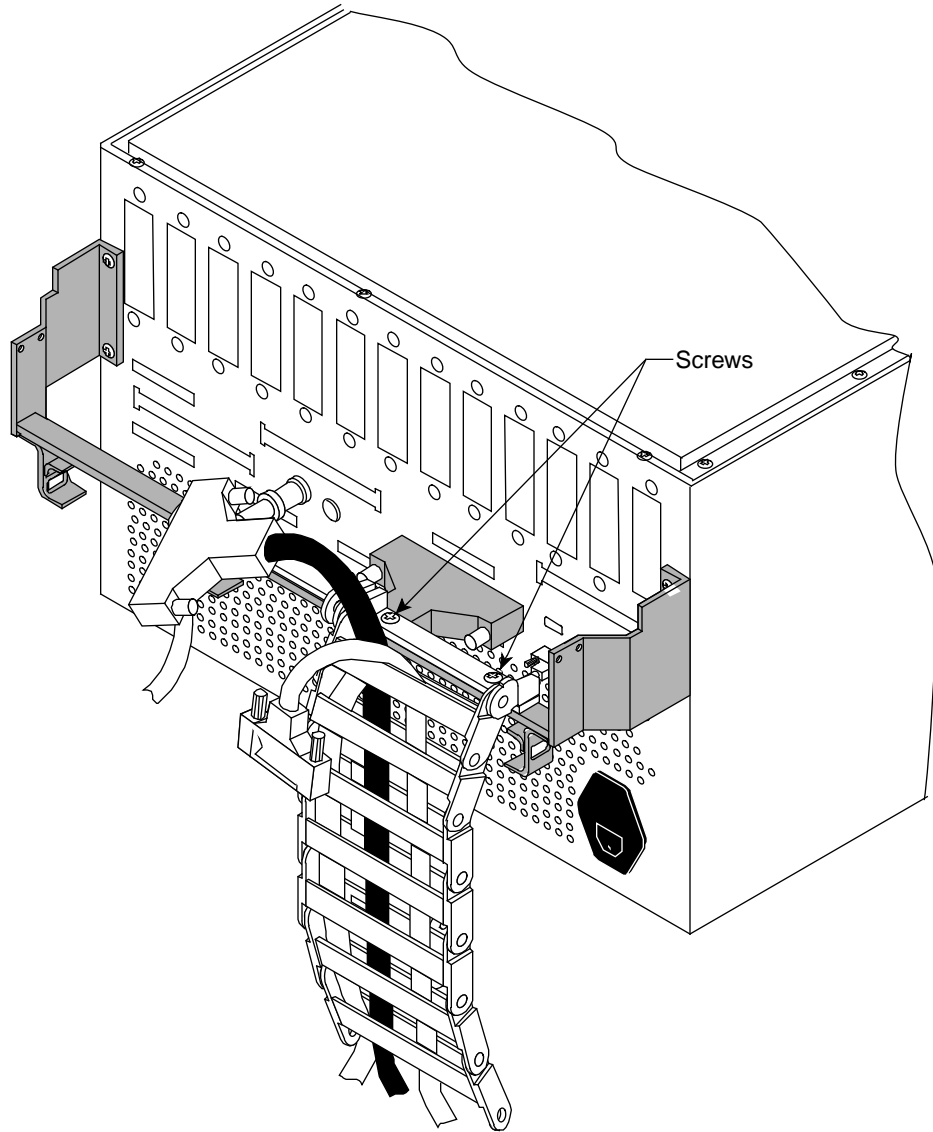

Figure 5. Flexible Cable Way
2. Disconnect the flexible cable way by removing the two screws that secure it to the VME tray. Refer to Figure 5.